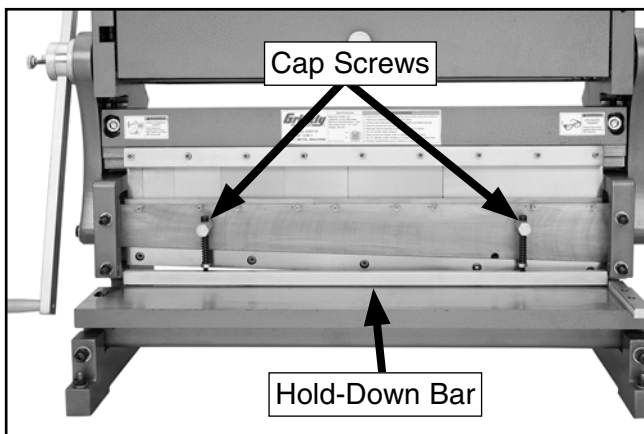

Figure 46. Location of cap screws securing hold-down bar.
1. Remove cap screws and springs that secure hold-down bar (see **Figure 46**).